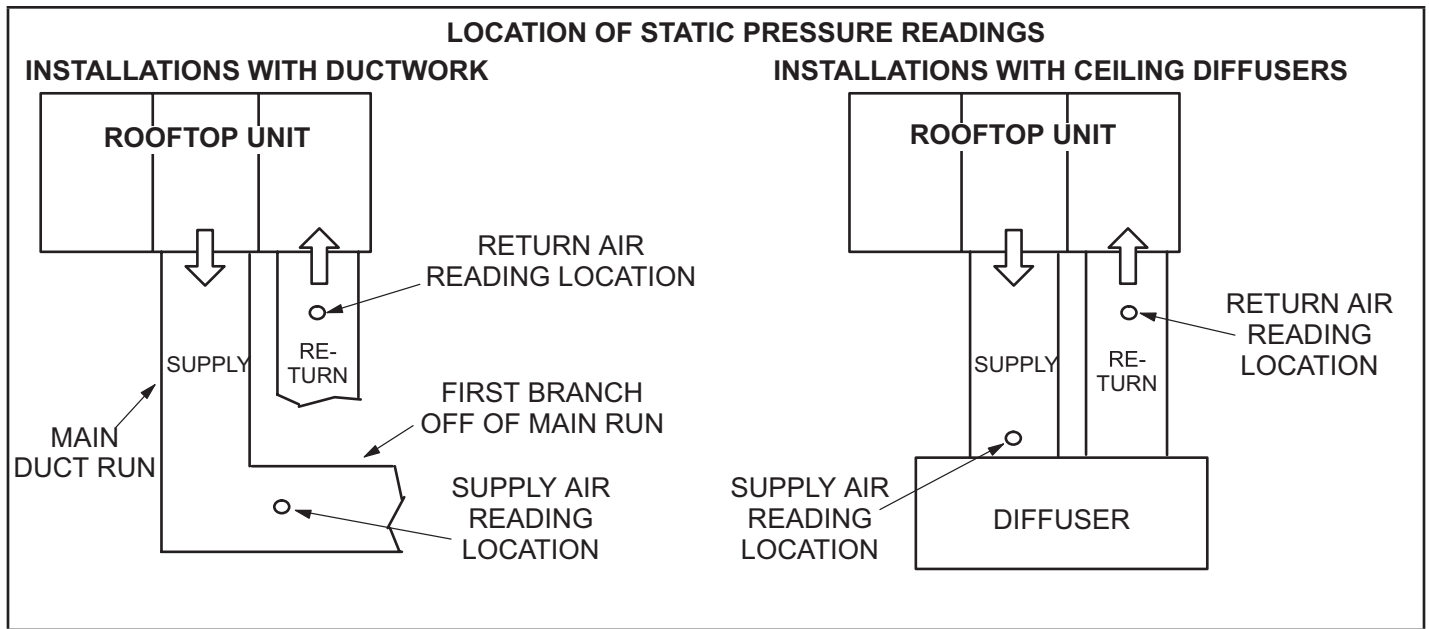

FIGURE 21
- 2 - With all access panels in place, measure static pressure external to unit (from supply to return). Blower performance data is based on static pressure readings taken in locations shown in figure 21.